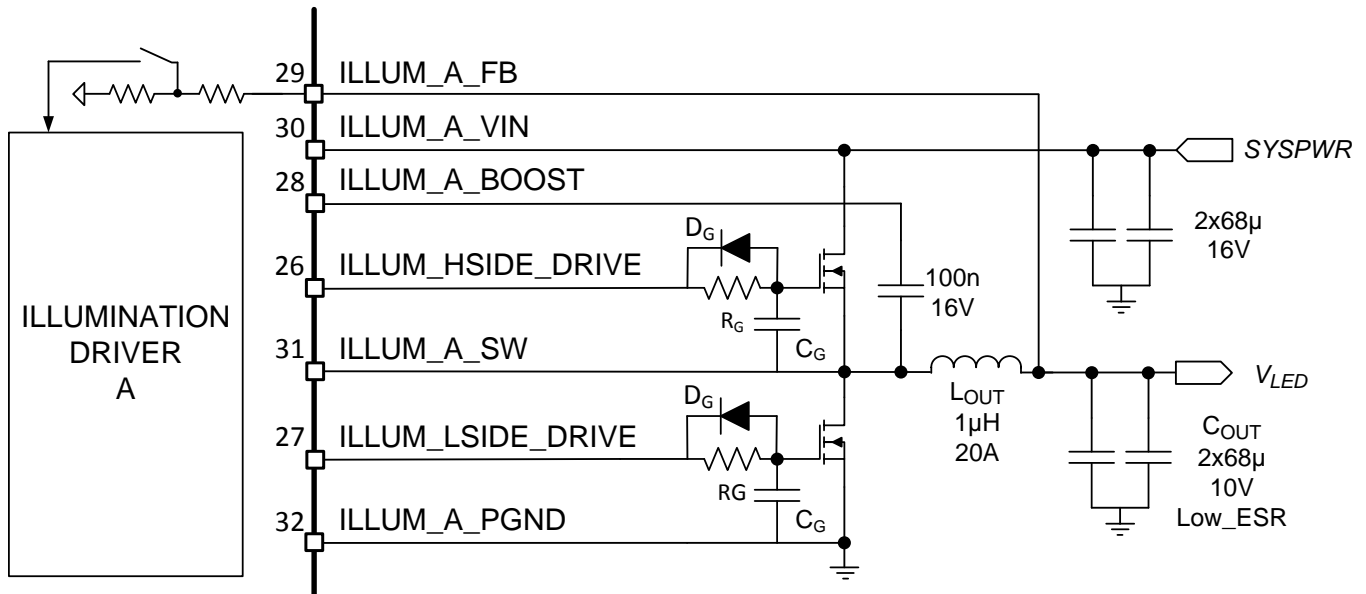

Figure 5. Typical Illumination Driver Configuration
The illumination driver of the DLPA3005 is a buck controller for driving two external low-ohmic N-channel FETs (Figure 5). The theory of operation of a buck converter is explained in application note, *Understanding Buck Power Stages in Switchmode Power Supplies*, SLVA057. For proper operation, selection of the external components is very important, especially the inductor L_{OUT} and the output capacitor C_{OUT} . For best efficiency and ripple performance, an inductor and capacitor should be chosen with low equivalent series resistance (ESR).
Below (Figure 10) an overview is given of the efficiency of the illumination driver plus power FETs for an input voltage of 12 V. Used external components (Figure 5): High-side FET (L) CDS17506Q5A, Low-side FET (M) CDS17501Q5A, $L_{OUT} = 2 \times 2.2 \mu H$ parallel, $C_{OUT} = 88 \mu F$. The efficiency is shown for several output voltage levels (V_{LED}) versus output current.